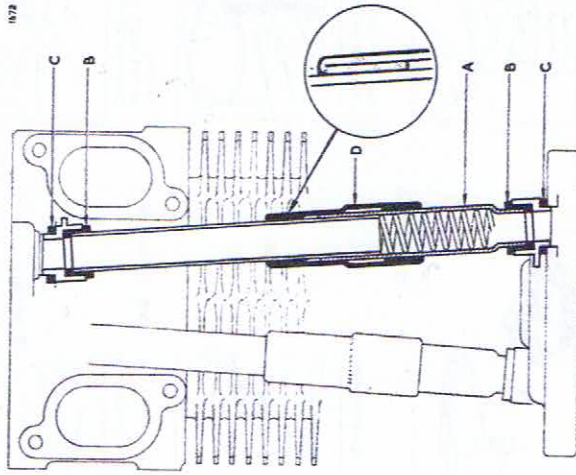

Fig. 6
29. To replace cylinder head (Fig. 6)
- (h) When replacing the push rod tubes, make sure that the stepped portion (A) of the assembly is fitted at the bottom and that the oil seals (B) and joint washers (C) are in good